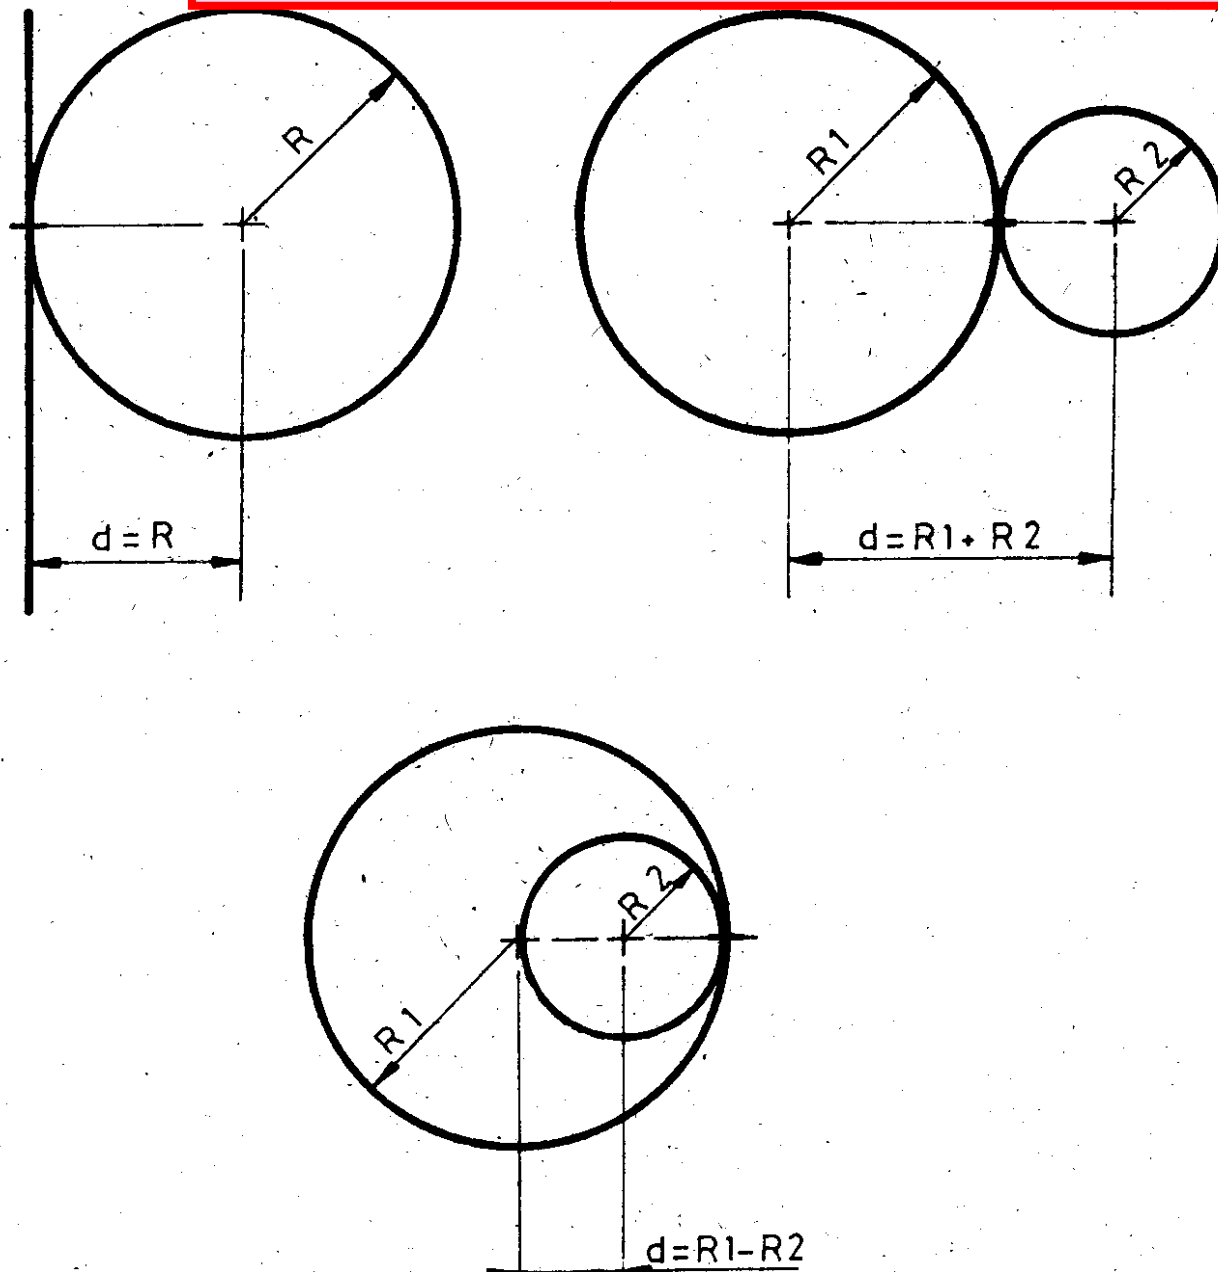

Fig.3-9 Tangent points
(1) the tangent point of a straight line and a circle will lie at the intersection of a perpendicular to the straight line that passes through the circle centre, and
(2) the tangent point of two circles will lie on the circumferences of both circles and on a straight line connecting the circle centers (Fig.3.9).